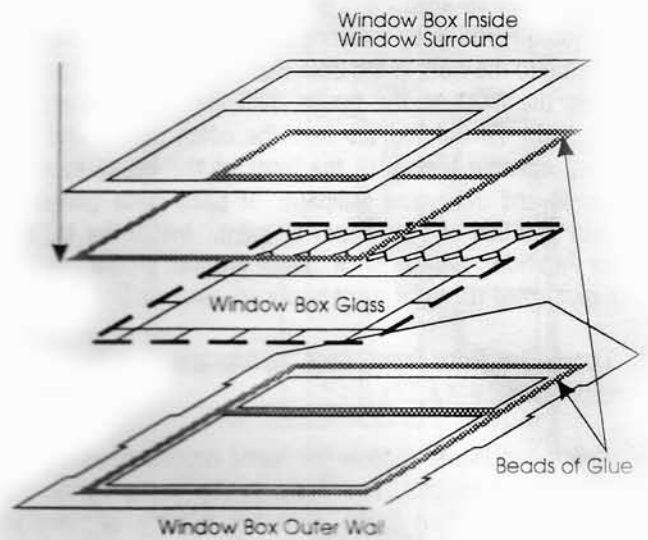

Figure 22
a. Glue Window Box Inside Surround, Glass, and Outside Wall together as in Figure 22. First, lay the Window Box Outer Wall with the GOOD SIDE DOWN, then glue the Window Box Glass to the Outside Wall with the whitest side down (the side the white ink was silkscreened to).